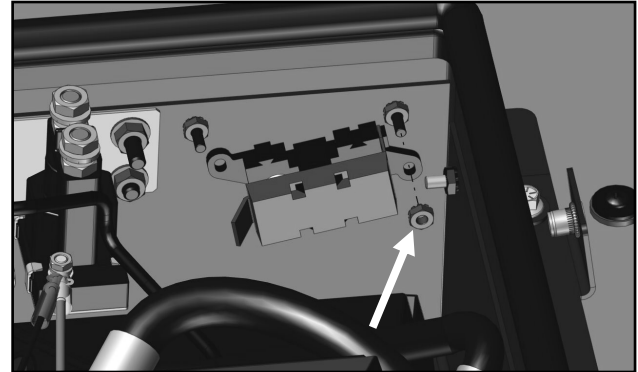

Fig. 3.2 (Install Fuse Stud)
- 3.2 Locate the single stud junction block (9SV-85-02-0046) (located in hardware box). Install the junction block to the air conditioner housing over one of the studs already in place in the air conditioner. Secure in place using nut provided in the hardware box. Figure 3.2. Note: it will only be secured with one mounting ear.